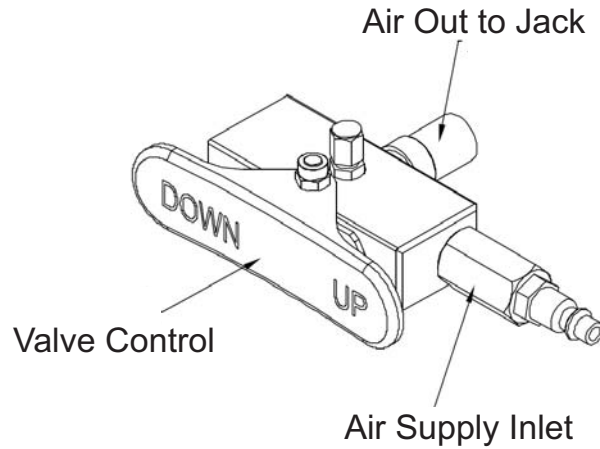

Figure 2 - Air Valve
1. Connect a union fitting (sold separately) to the air supply inlet (ref. Fig. 2).